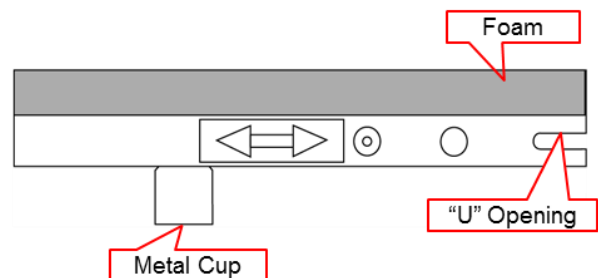

Figure 1
1. Locate the four (4) aluminum channels for the hood and position them into a square with the foam facing up. Slide the "U" opening on the channel end (Fig. 1) and corner bracket toward the brass eyelets until you feel it latch.
9. Push the support rod down and insert the top end of the rod into the metal cup on the hood frame. Fig 1.